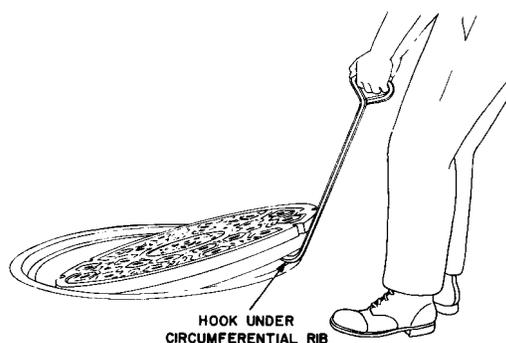

Fig. 3—Unseating the Cover
- (2) The cover should then be unseated approximately 4 inches (Fig. 3) by pulling with the manhole hook making sure that all of the pulling is done with the leg and arm muscles and not with the back muscles.